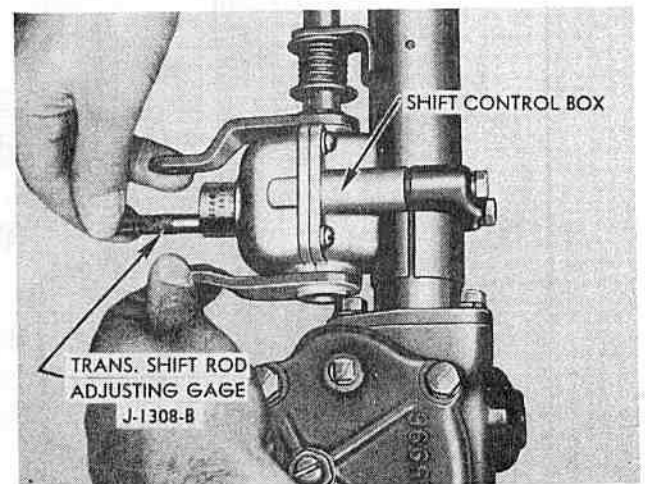

FIG. 340
**CHAMPION AND COMMANDER** To adjust the steering post gearshift control, first disconnect the shift rods (note the position of each clevis) from the transmission levers. Then pry out the plug in the shift control box and install Transmission Shift Rod Adjusting Gage No. J-1308-B (see Fig. 340). This new tool may be